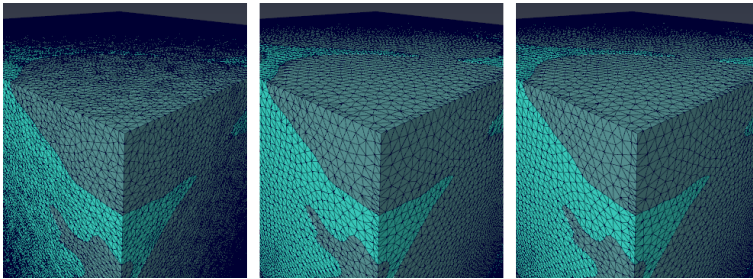

Figure 5.27: From left to right: initial surface, fix contours remeshing, remeshing around contours only.
- Run the remesher (see Figure 5.27).